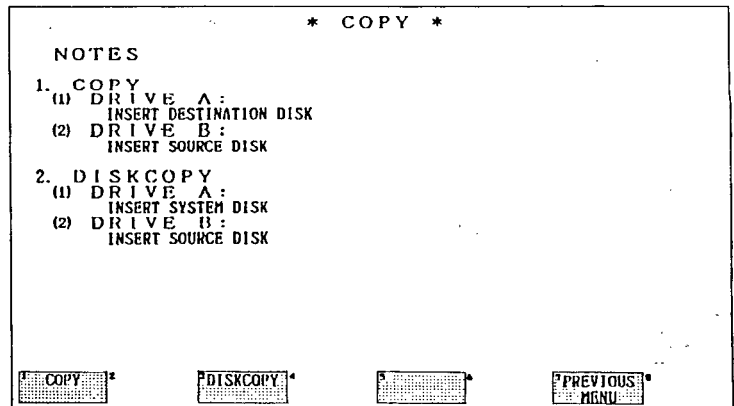

Fig. 7.134
- (1) Prepare the destination disk for writing in advance.
- (2) Depressing **CANCEL** key in the display as shown in Fig. 7.136 calls up the display as shown in Fig. 7.134 again.
2. Depressing **CANCEL** key in Fig. 7.137 calls up the display shown in Fig. 7.134 again.